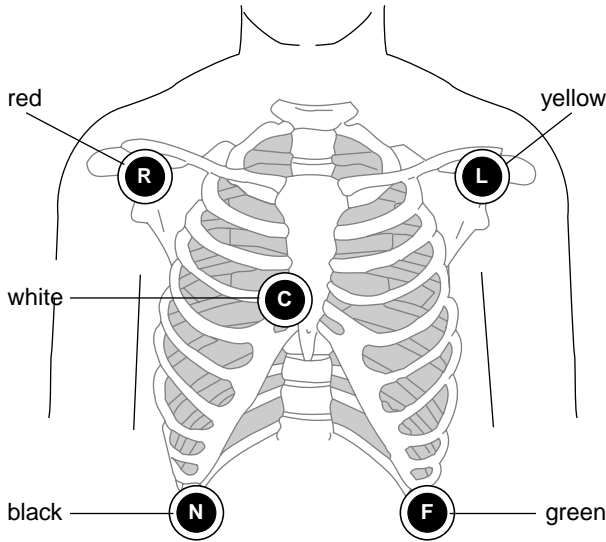
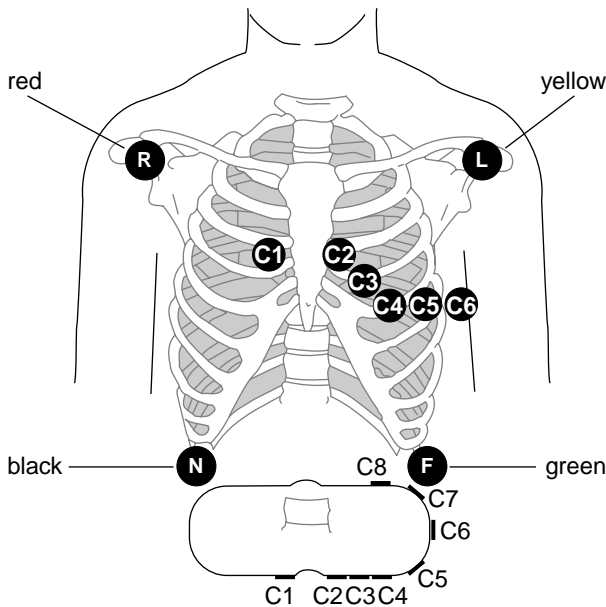

Figure 7-1. Signal acquisition with 5 electrodes
Figure 7-2. Chest electrode placement
- If you are using only 5 electrodes, apply them as shown in Figure 7-1. When working with 10 electrodes, additionally apply all chest electrodes as shown in Figure 7-2.